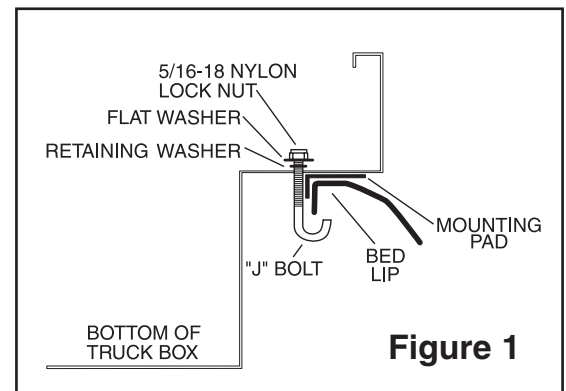

Figure 1
- A. Determine if J-Bolts can be hooked under side wall tops and line up with the locations marked. See Figure 1. If so, proceed to Step C.
- C. Insert J-Bolt threaded ends up through the holes from the bottom. (See Figure 1). Place nylon retaining washer on J-Bolts to hold them in place. Put the Crossover in the desired location. Hook the curved ends of J-Bolts under tops of side walls.